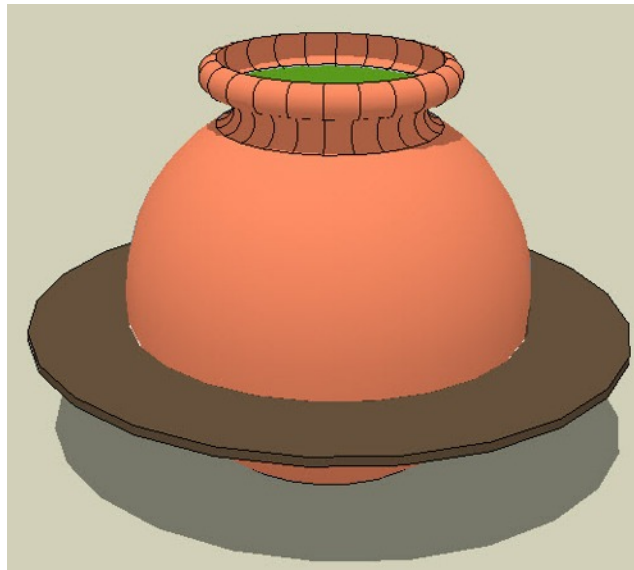

Figure 101. The Planter shown with material colour added and shown here with Shadows activated
- Use the **Paint Bucket** to add Material colour to the faces as shown in Figure 101.